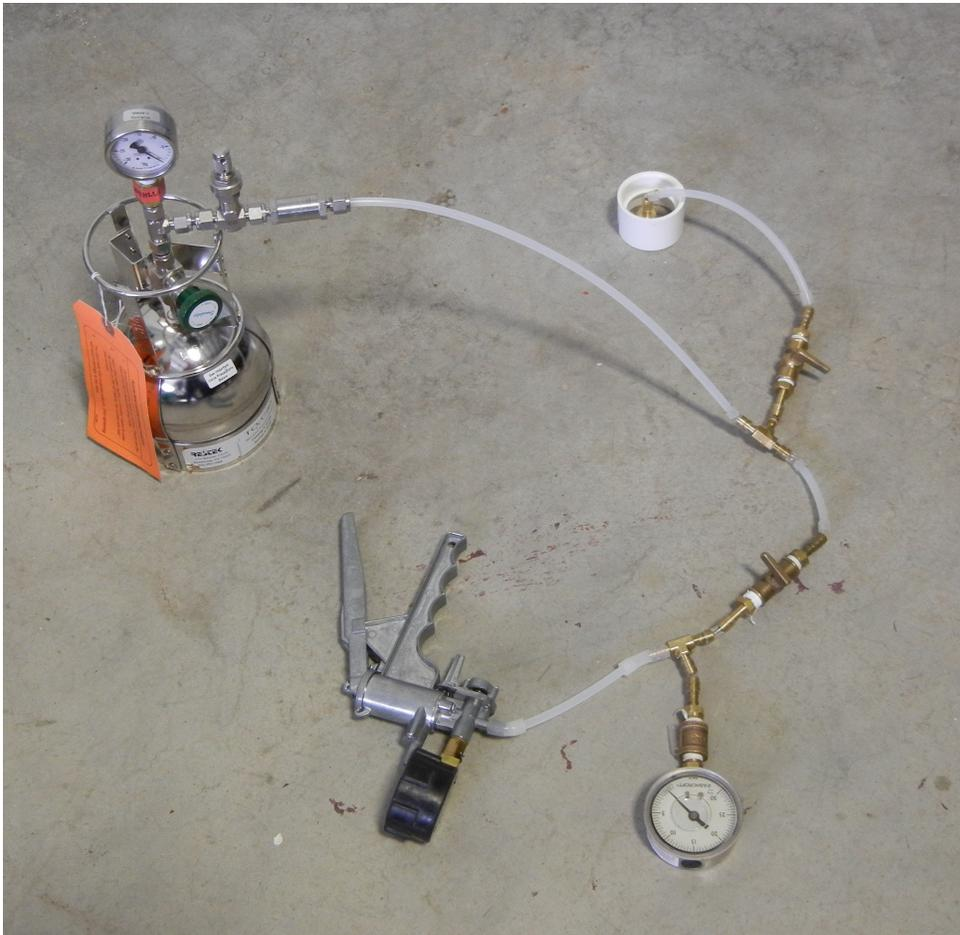

Figure 1. Example of Sub-Slab Sampling and Leak-Test Setup
5. Assemble the sample train (tubing, sample canister, tee fittings, stopcock, vacuum pump, etc.) separately from the Vapor Pin™ and impose a vacuum of 15" mercury equivalent (in Hg). Close the stopcock and verify that the sample train can hold a vacuum for one to five minutes with no more than 0.5 in Hg loss of vacuum. Depending on sample configuration, the stopcock might or might not remain in the sample train during sampling. An example is shown in Figure 1.
7. Purge and sample the sample point as required by the data quality objectives. Water level might drop slightly due to absorption into the concrete, but if there is a sudden drop in water level, the appearance of water in sample tubing, or other indication of water entering the sub-slab, remove the distilled water from the couple or depression, and reposition the Vapor Pin™ to stop the leakage before resuming the leak test and sampling. In Figure 1, the stopcocks are used to isolate the Vapor Pin™ during vacuum testing and subsequently to allow the vacuum gauge and hand pump to be removed prior to sampling.